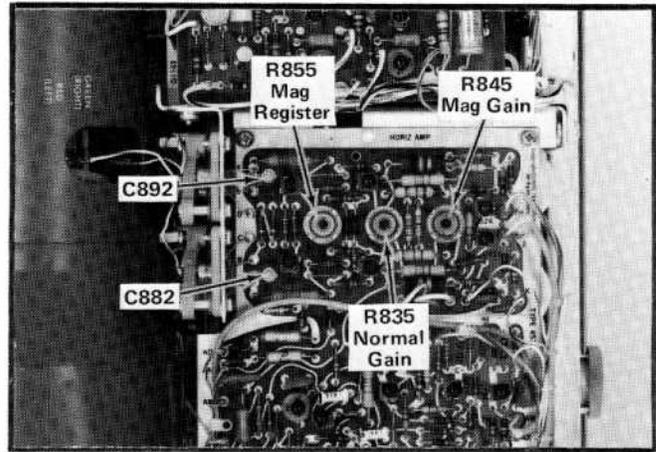

Fig. 5-14. Location of Horizontal Amplifier adjustments (B Sweep board).
c. ADJUST—Normal Gain adjustment R835 (see Fig. 5-14) for one marker each division. The second and tenth markers must coincide exactly with their respective graticule lines (reposition display slightly with the horizontal POSITION control if necessary).
d. ADJUST—Mag Gain adjustment R845 (see Fig. 5-14) for one marker each division. The second and tenth markers must coincide exactly with their respective graticule lines (reposition the display slightly with the horizontal FINE control if necessary).
e. ADJUST—Mag Register adjustment R855 (see Fig. 5-14) to position the middle marker to the center vertical line.
g. ADJUST—C882 and C892 (see Fig. 5-14) for optimum linearity over the center eight divisions of the graticule (attempt to keep C882 and C892 nearly equal in capacitance, by adjusting each capacitor about the